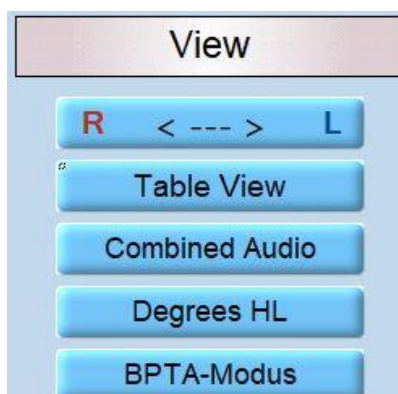

Figure 57
**BPTA-Modus:** Activates the Speech Therapy Mode (Figure 57).